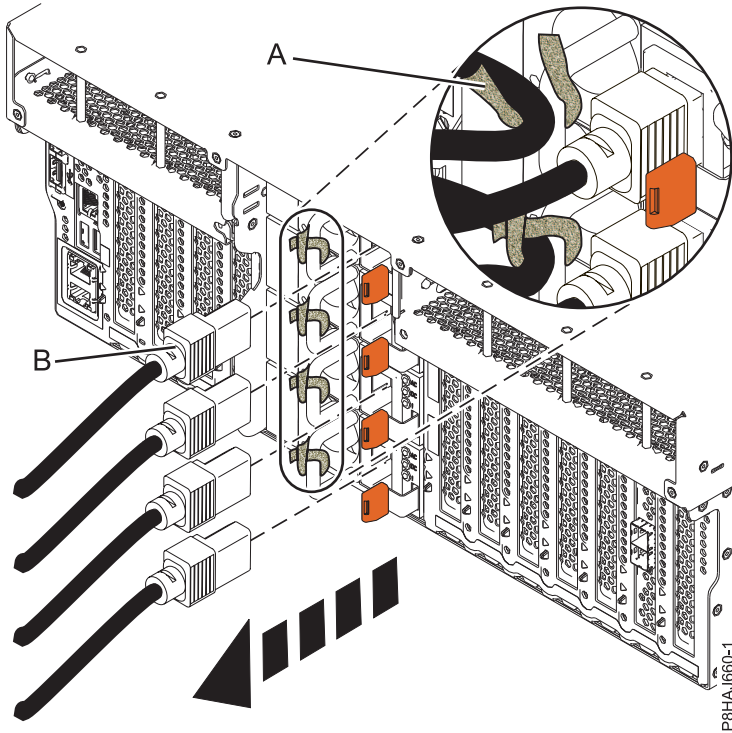
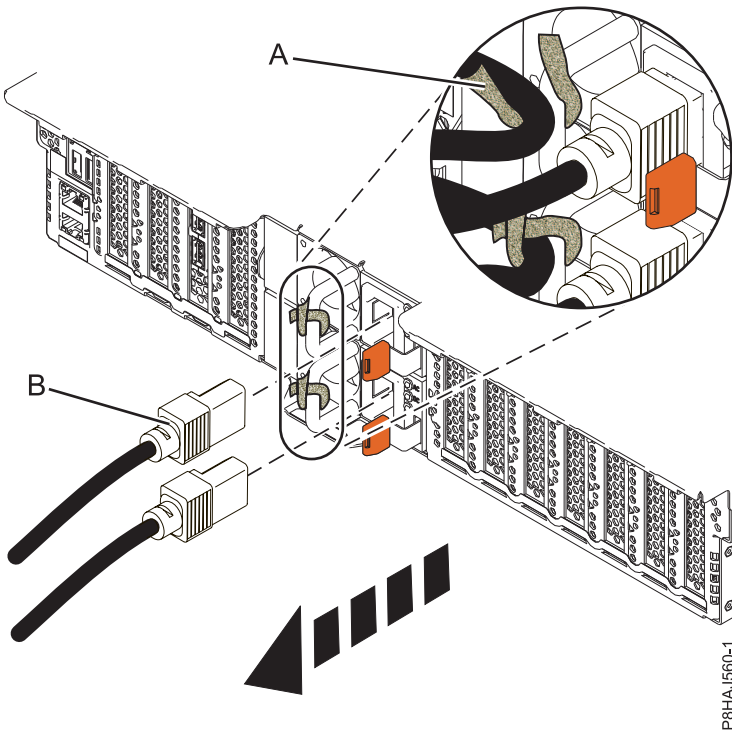
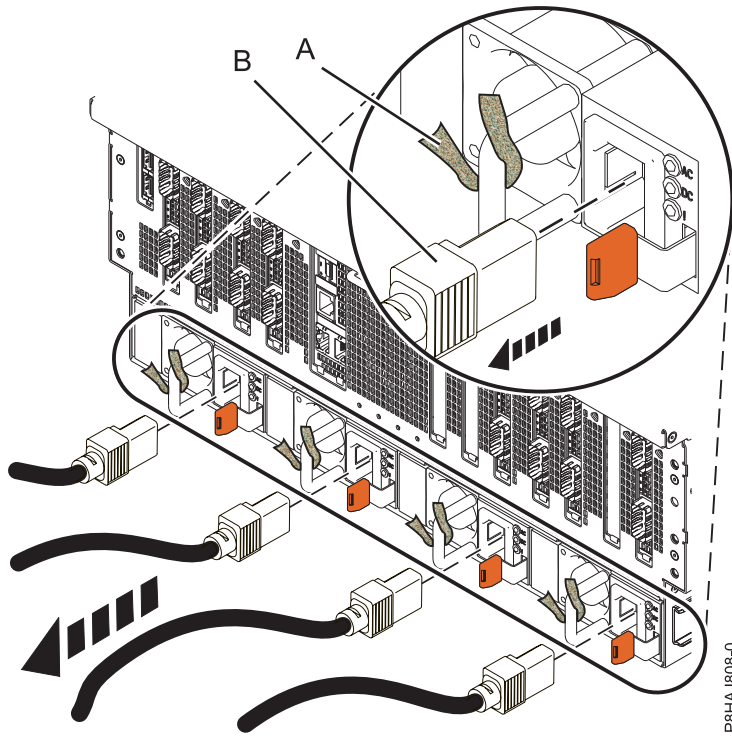

Figure 16. Removing the power cords from an 8247-42L, 8286-41A, or 8286-42A system
Figure 17. Removing the power cords from an 5148-21L, 5148-22L, 8247-21L, 8247-22L, 8284-21A, or 8284-22A system
Figure 18. Removing the power cords from an 8408-44E or 8408-E8E system
3. Disconnect the power cords (**B**) from the system unit. See Figure 16 on page 40, Figure 17 on page 40, or Figure 18 on page 41 or depending on the type of your system.